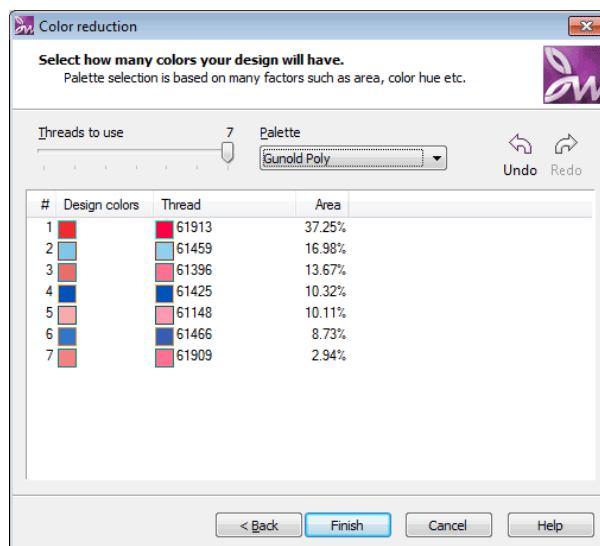

Figure 2.5: Color reduction dialog
20. The **Color reduction** (number of threads) dialog (Figure 2.5) will appear where you can select the **Thread palette**.